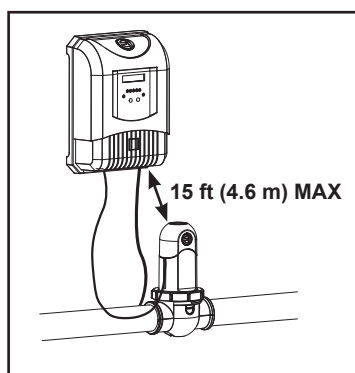

Figure 4. Installation Requirements
2. Screw the power pack bracket into position ensuring it is no more than 15 ft. (4.6 m) from the cell (see Figure 4 and 5).